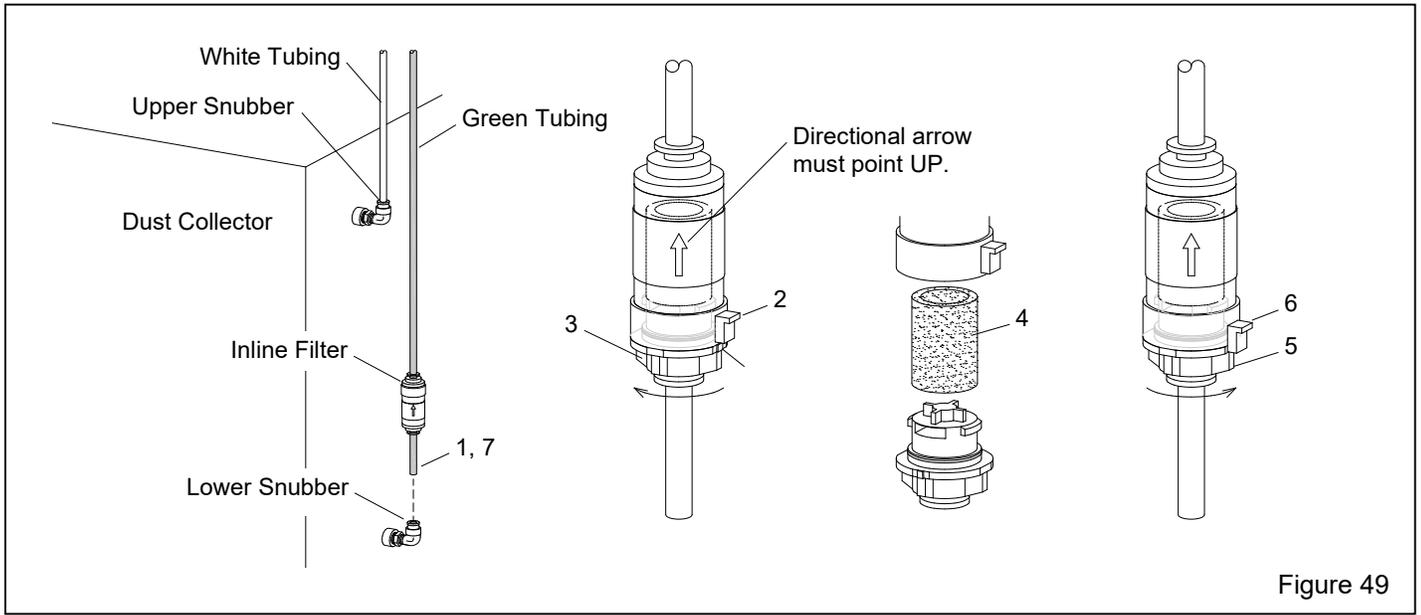

Figure 49
7.15 Clean Dust-Collector's Inline Filter – Figure 49
7.15.1 To avoid cartridge pulsing during cleaning, make sure power is OFF (red pushbutton is pressed). Refer to the matching step numbers in Figure 49 and clean the filter as follows: